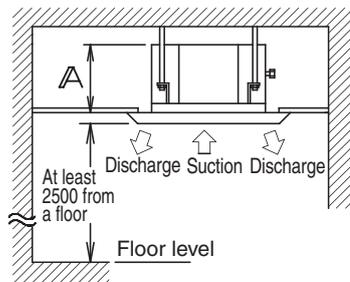

Fig. 1
- Where a space sufficient for installation and service can be ensured. (Refer to Fig. 1)